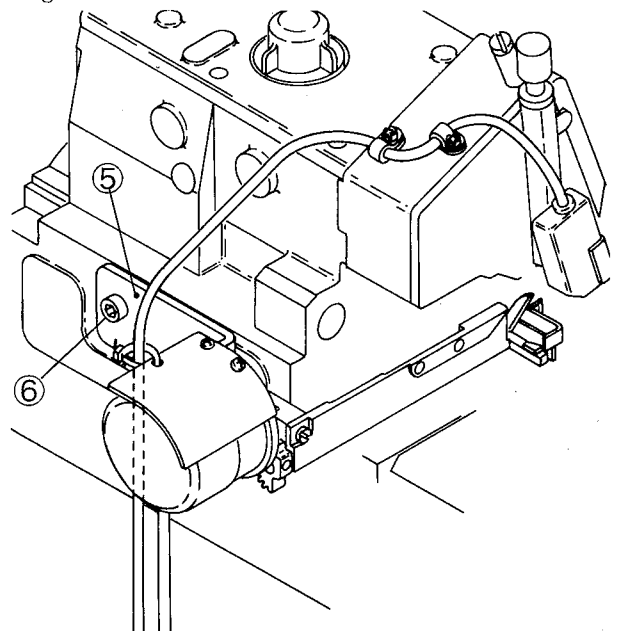

Fig. 9
- (3) Tighten the two screws⑥ on the solenoid installation plate⑤ until the driving gear④ and driven gear① rattle slightly. (Fig. 9)
- (4) Loosen the screw⑨ of the driving gear④ and reposition the upper knife⑦ so that its home position is about 80° above the lower knife⑧.